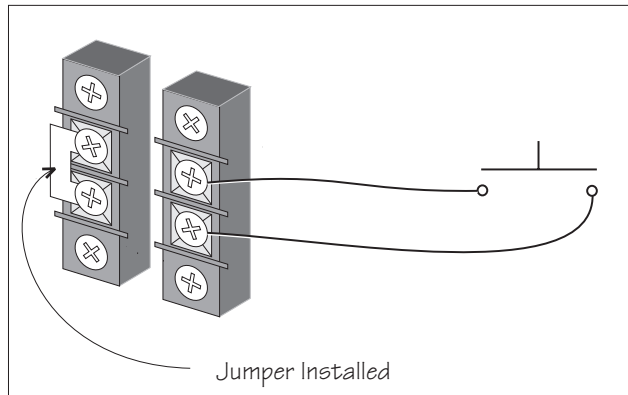

Fig 4-9 Dry Contact Switch
2. Refer to figures 4-9 and 4-10. Select the configuration that matches the type of REPO switch that is to be installed.
Connect the contact closure REPO wiring to the terminal block as illustrated in figure 4-9 below.